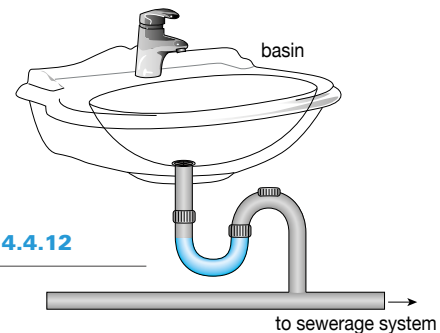

FIGURE 4.4.12
- Your basins at home have an 'S' bend in the water pipes below the drain hole, as shown in Figure 4.4.12. The bend keeps some water trapped in it. When you turn on the taps the trapped water is pushed out and replaced by new water. You have a similar water trap in your toilet. Propose some reasons why a water trap is needed in basins.